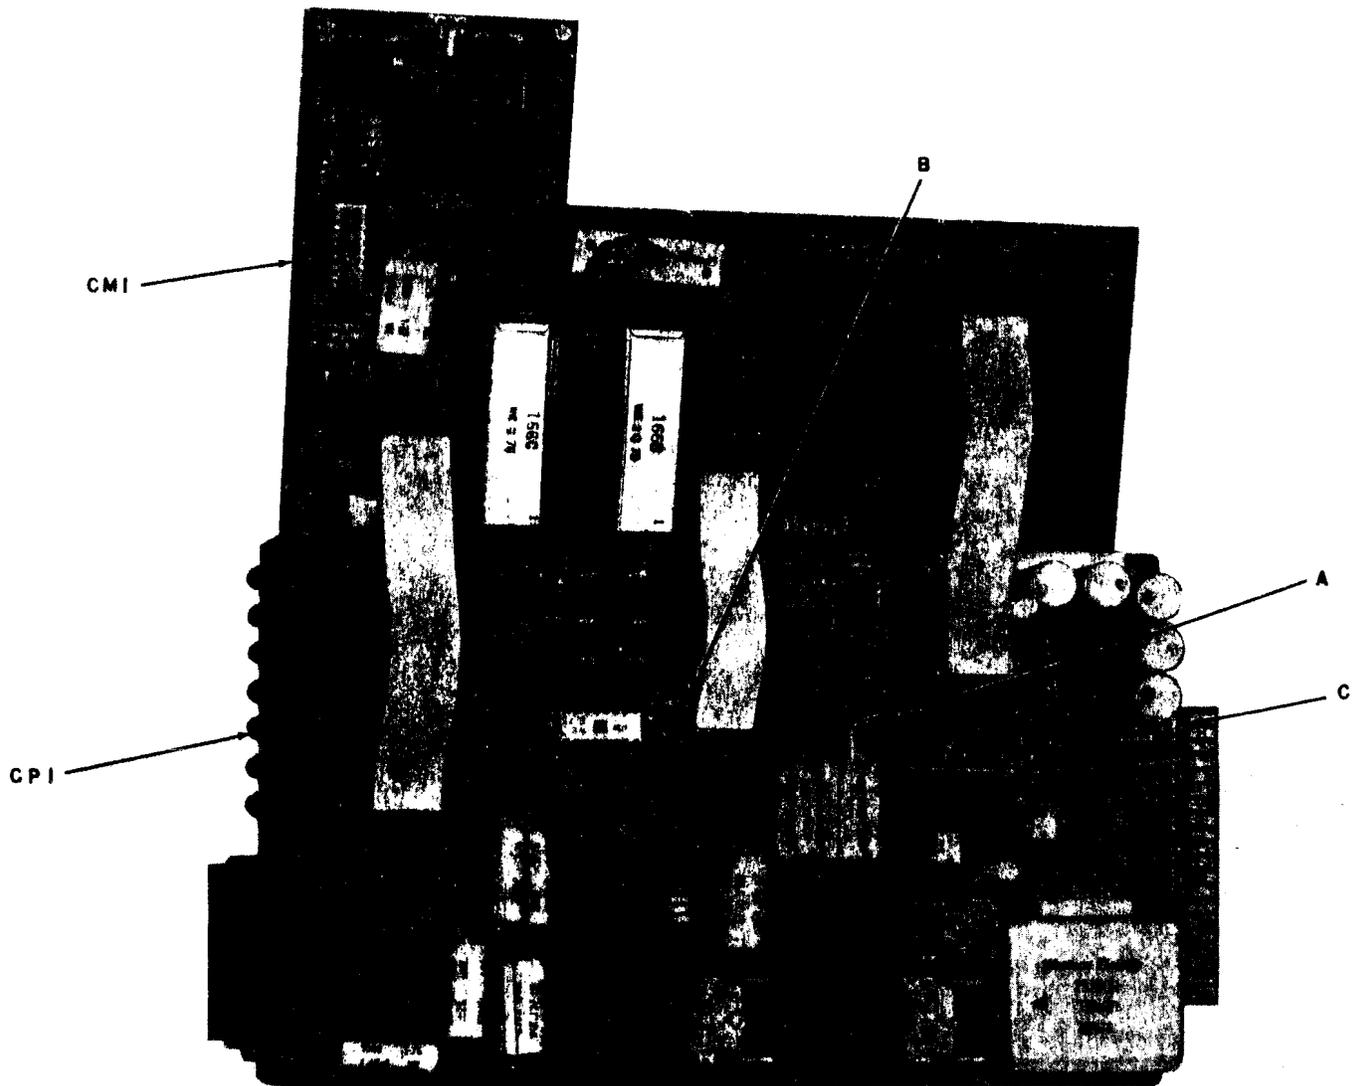
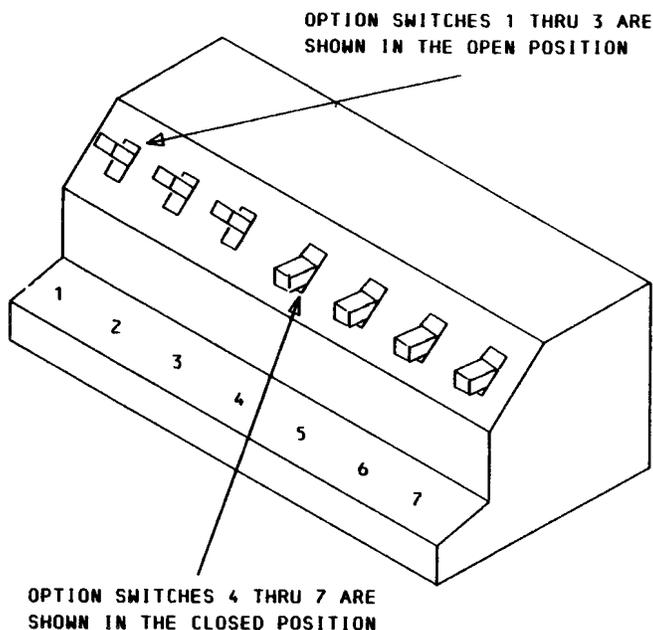
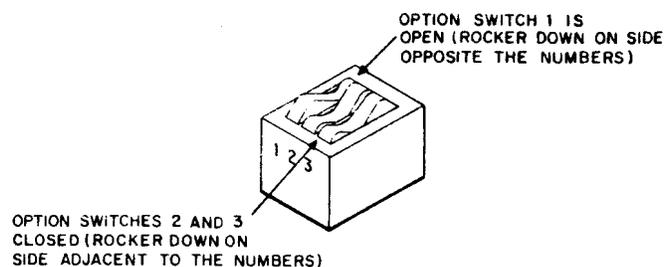

Fig. 2—Data Set 103J-L1 Unfolded
Fig. 3—Side Actuated DIP Option Switch S2
Fig. 4—Rocker DIP Option Switch S3
2.02 To access the common ringer jack-pin option, open the data set by removing the two captive screws from underneath CP1. Using care, disengage the two teflon standoffs and rotate open the two circuit packs which remain attached by the three flexible tapes. Figure 2 shows DS 103J-L1 unfolded.
3.04 Data set options are determined by the switch settings S1 (on data mounting), S2 (Fig. 3), S3 (Fig. 4), and flexible cord pin jack (pin-jack option) on CP1 (Fig. 2). A description of the options shown in Table A follows.